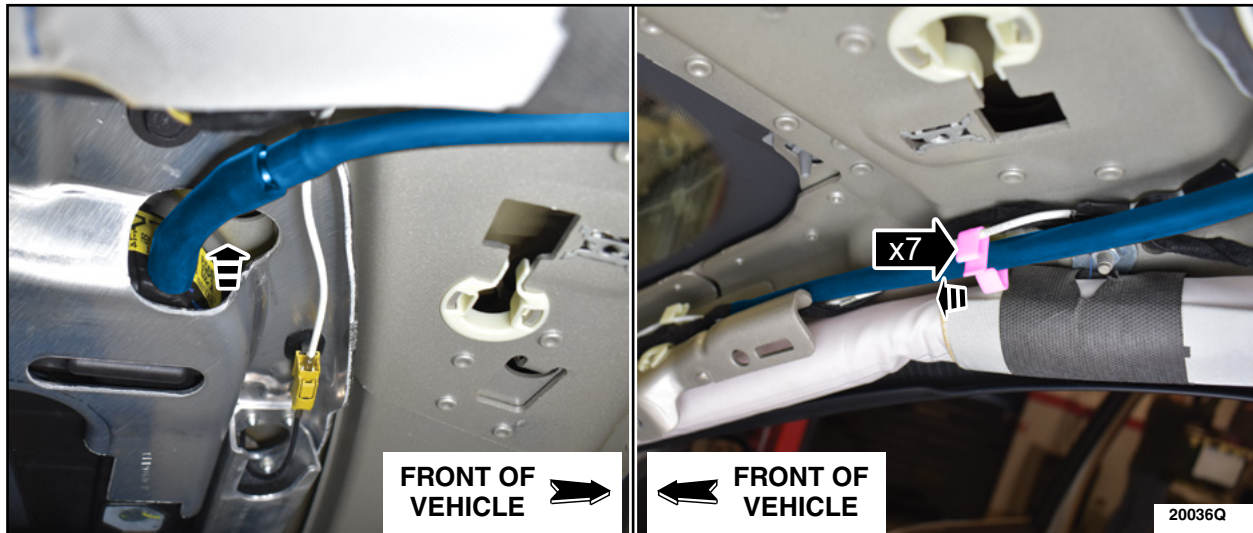

FIGURE 18
31. Remove the roof opening panel drain tube. See Figure 18.